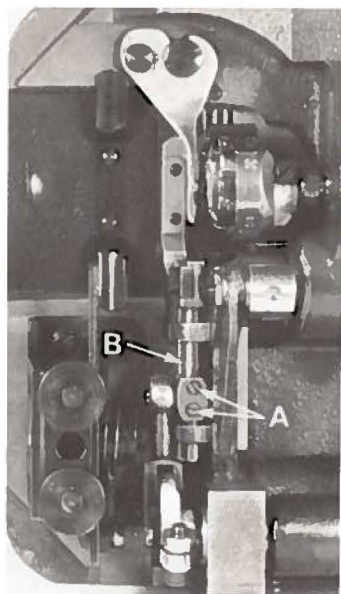

Fig. 15
Loosen feed dog holding screws (F) to space the feed dog forward, backward or sideways in the throat plate. The sides of the differential feed dog should be in line with the main feed dog. If more adjustment of the differential feed dog is required, first loosen holding screws (F) and move feed dog so that screws are centered in elongated slots of feed dog. Tighten screws. Now tip machine back against the rest pin. Loosen the two set screws (A, Fig. 15) and move differential feed bar (B) forward or backward as required to position feed dog properly. The loosening of screws (A) will also allow the differential feed bar to be rotated so the feed dog can be aligned parallel with the top surface of the throat plate across the line of feed. Tighten screws securely.